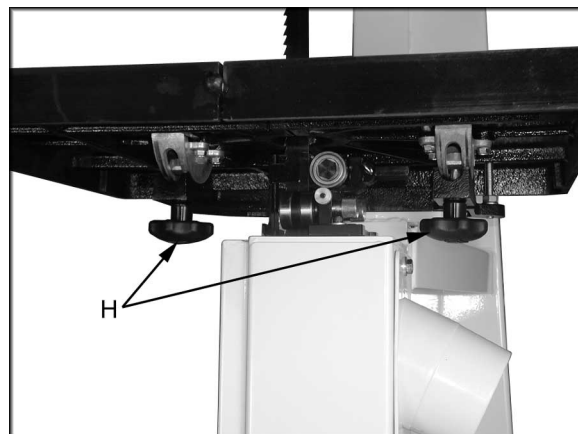

Figure 6
3. Line up the trunnions so that the bolts feed through the trunnion support bracket. Secure the table with two lock knobs (H, Figure 6). Reinstall the table insert and table pin.